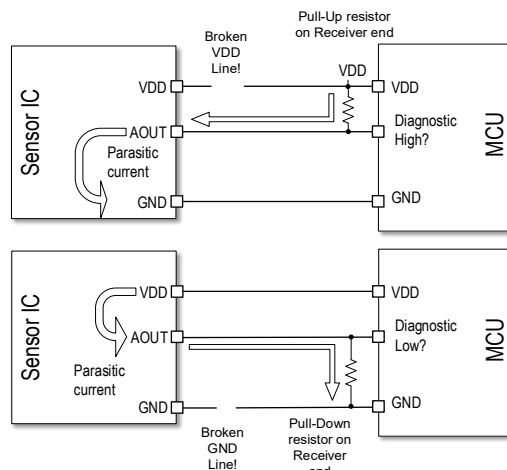

Figure 28. Parasitic Currents on Analog Outputs with Broken VDD or Broken GND Lines
Most broken supply, broken GND, or analog output signal connection errors can be detected by monitoring the DC voltage levels at the analog output pin AOUT, see the uncritical error cases on Figure 28. If a diagnostic error or broken signal wire occurs, the DC voltage level at the affected pin is pulled into the diagnostic range (diagnostic high:  $V_{OUT} > 95\% V_{DD}$  or diagnostic low:  $V_{OUT} < 5\% V_{DD}$ ) through the external pull-up/pull-down resistors.
- a broken VDD supply wire with external pull-up resistors at the receiving end, see Figure 28.
- a broken GND wire with external pull-down resistors at the receiving end, see Figure 28.